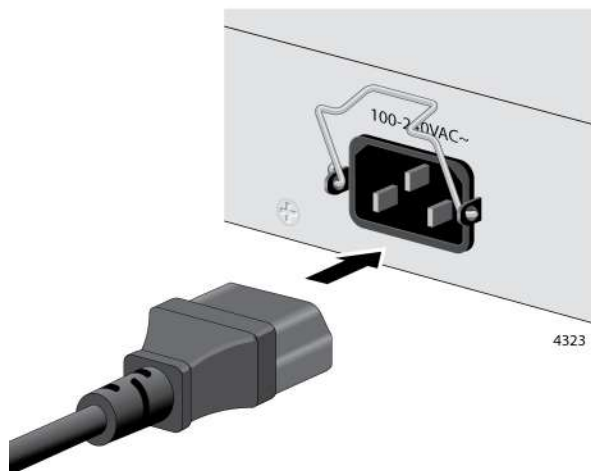

Figure 36. Plugging in the AC Power Cord
3. Connect the power cord to the connector. See Figure 36.